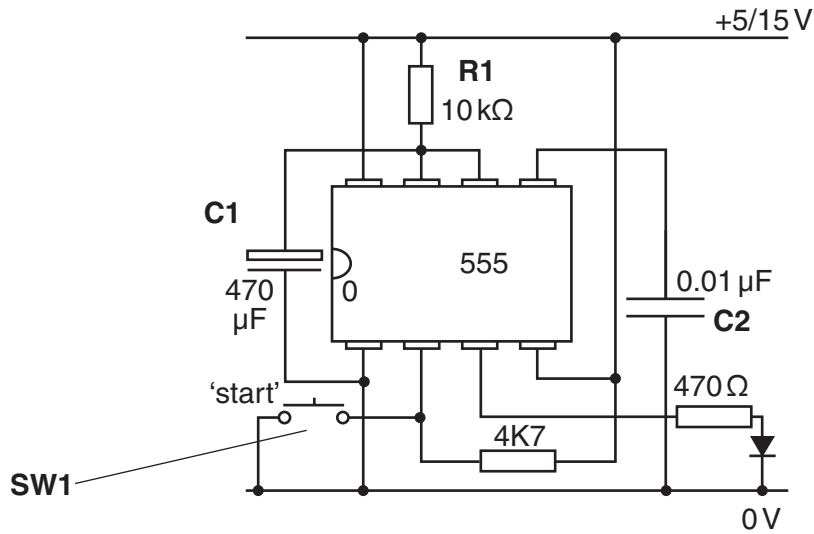

Fig. 10
- 3 (a) A light is to be used to warn people of protruding scaffolding. Fig. 10 shows a suitable circuit for this purpose.
- (i) Add numbers to Fig. 10 to show the order of the pins on the 555 IC. [2]